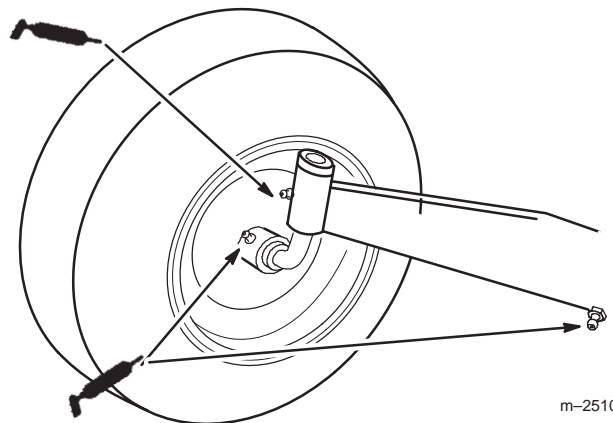

Figure 29
1. Lubricate the front wheels, spindles and tie-rod ends until grease begins to ooze out of the bearings (Fig. 29).
2. Lubricate the front axle pivot (Fig. 29).